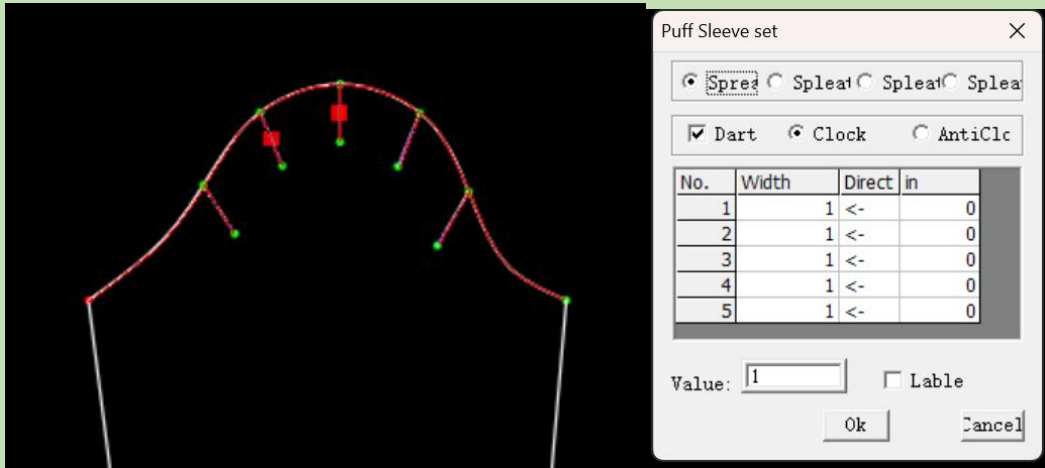

Figure4-90
4. Enter the unfolding amount, select the insertion type, and then click OK (Figure 4-90).